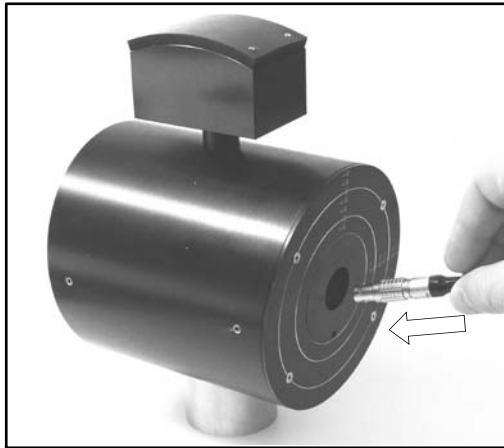
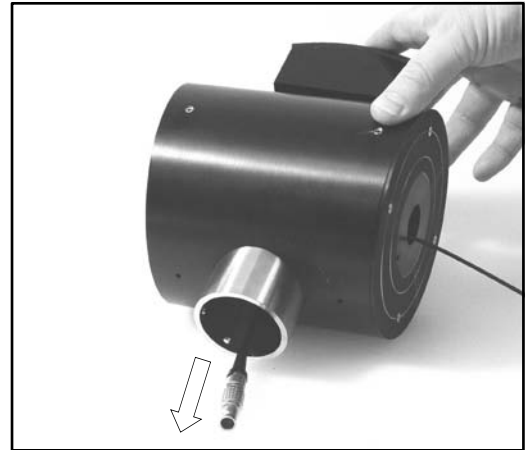

Fig. 5.9
Fig. 5.10
3. Pass the amplifier's LEMO plug end through the side of the head (fig. 5.9) until it drops through the tube (Fig. 5.10).